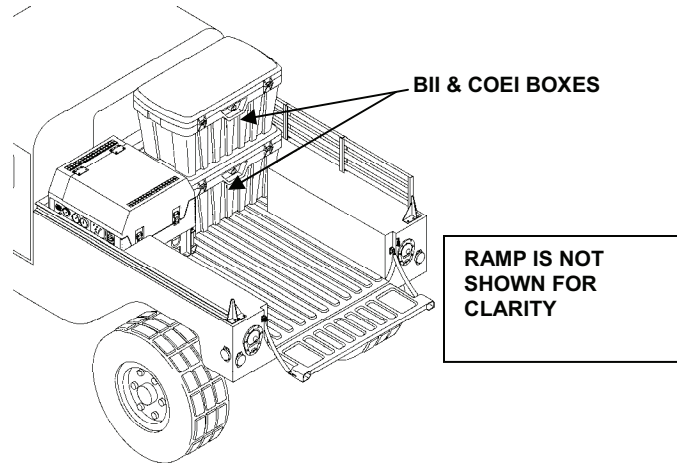

Figure 14. Offloading Basic Issue Items and Components of the End Item Boxes.
26. Unload Basic Issue Items (BII) box and Components of End Item (COEI) box from the vehicle. See Figure 14.